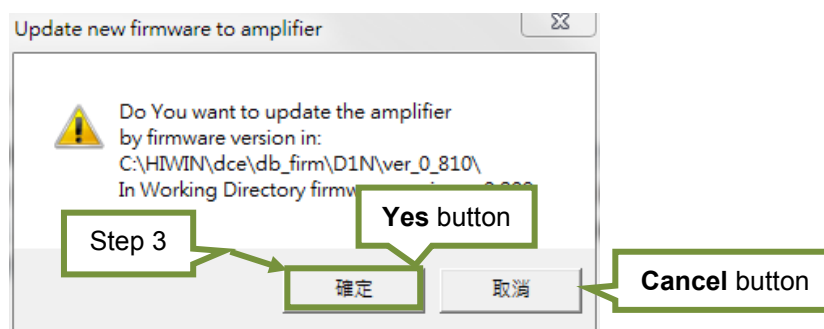

Figure13.1.3
- Step 2: Click on **File** and select **Update selected firmware to amplifier**. A message dialog shown as figure 13.1.3 appears.